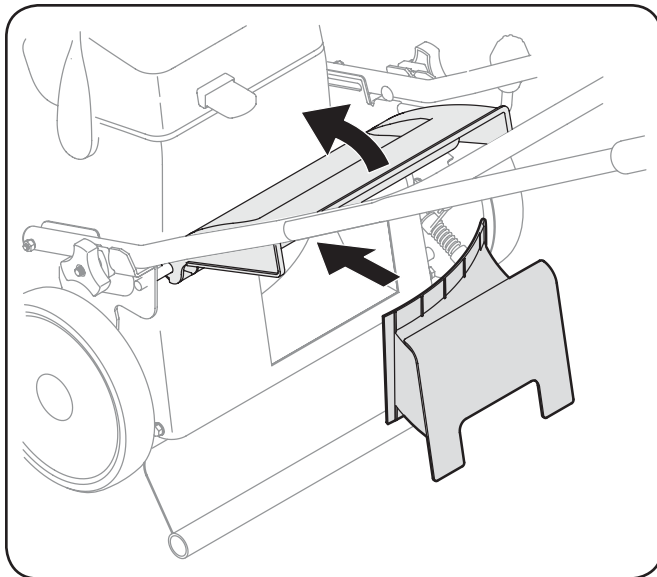

Figure 3-10
2. Install rear mulching baffle. See Fig. 3-10.
2. Make sure the rear mulching baffle is installed. See Fig. 3-10.